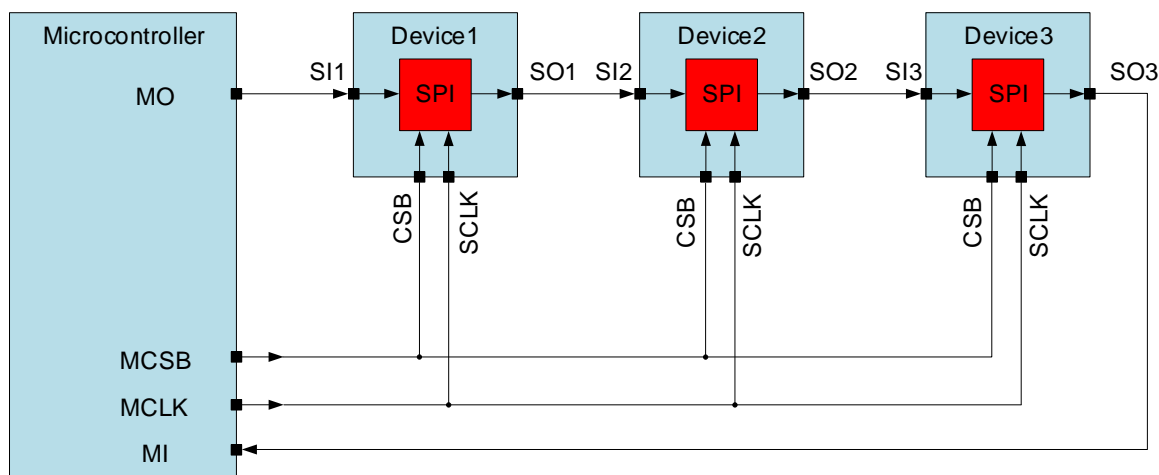
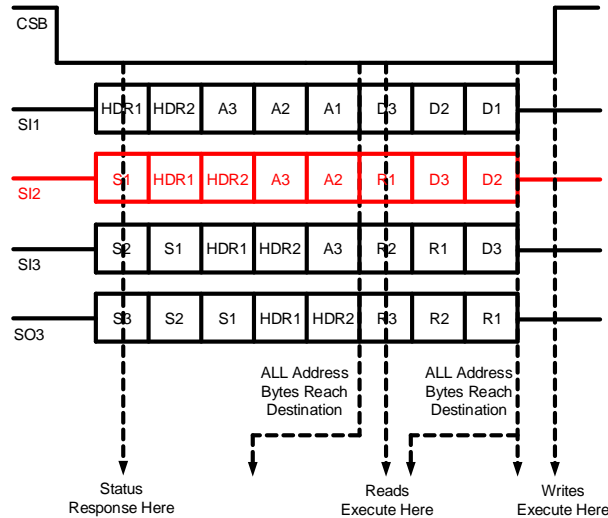

Figure 19. SPI Daisy Chain
Figure 20. Daisy Chain SPI Operation
The device supports daisy chain operation with devices with the same SPI protocol shown in Figure 20. The master output (MO) is connected to a slave SI and the first slave SO is connected to the next slave SI to form a chain. The SO of the final slave in the chain will be connected to the master input (MI) to close the loop of the SPI communication frame. In daisy chain configuration, a single chip selects, CSB, and clock signal, SCLK, connected in parallel to each slave device, are used by the microcontroller to control or access the SPI devices. Figure 19 shows the topology when 3 devices are connected in series with waveforms.
The first device in the chain shown above receives data from the master controller in the following format. See SI1 in Figure 20.
After the data has been transmitted through the chain, the master controller receives it in the following format. See SO3 in Figure 20.
The device can count the number of Status bytes behind the Header byte to recognize its position. As shown in Figure 20, the device 2 has One Status bytes (S₁) behind the Header byte and the device 3 has Two Status bytes (S₁, S₂) behind the Header byte. When the device knows its position and the number of devices connected in the chain, the device could load the relevant address and data byte in its buffer and bypasses the other bits. In this way, even the chain has 63 devices, the device still works fleetly.